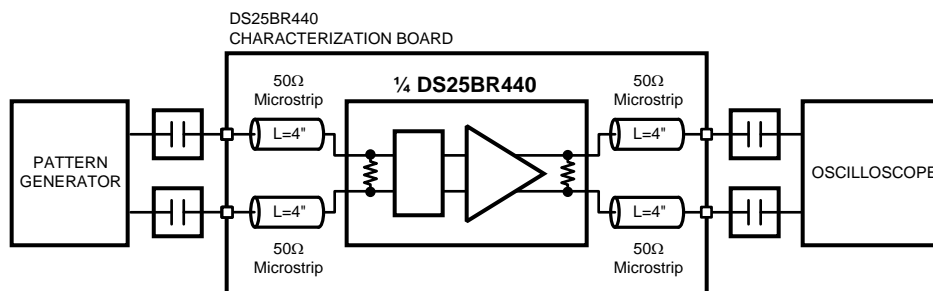

Figure 5. Jitter Performance Test Circuit
| JITTER PERFORMANCE WITH EQ = Off, PE = Off (3) (Figure 5)           |   |   |            |      |      |             |